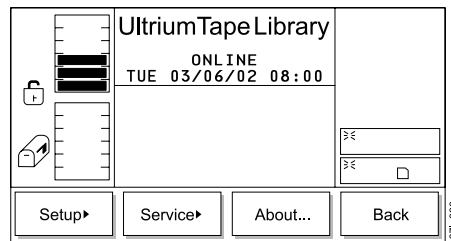

Figure 247. Main Menu (alternate screen)
1. From the Main Menu's initial screen, press the button below the **More** softkey. The Main Menu's alternate screen displays (see Figure 247).